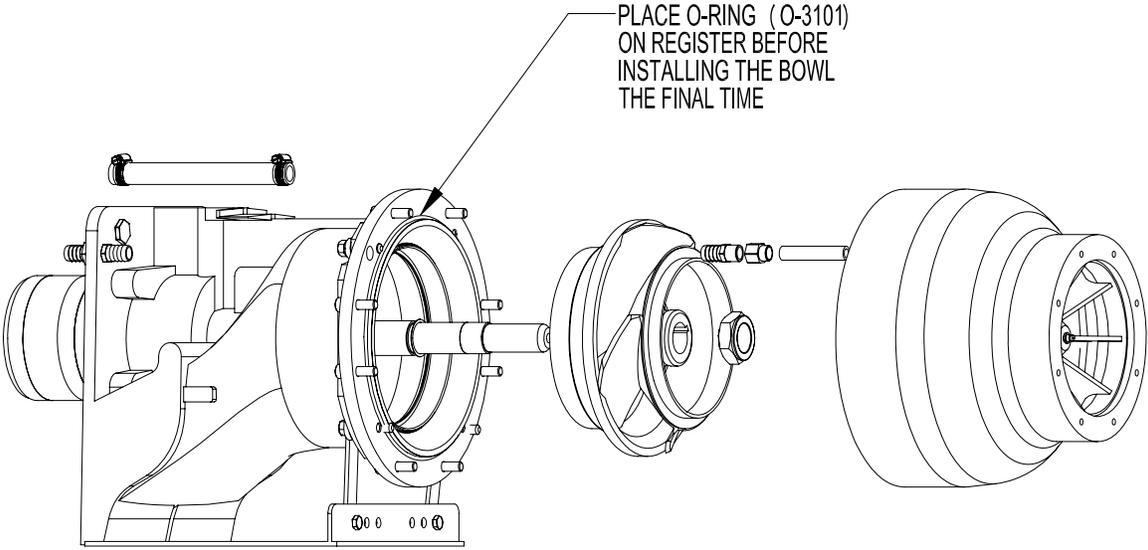

FIG 8
35. Temporarily install the bowl with four equal spaced bolts. Snug up the bolts, rotate the impeller shaft checking for tight spots or ticking noise. After you are satisfied there are no tight spots or noises then remove the bowl. FIG 8 Note: it is easier to install into the hull if you remove the bowl. You can hold the shaft and rotate it to line up the splines with the end yoke.
45. Install the bowl; make sure to use the o-ring. FIG 8 Torque the bowl bolts to 25 ft/lbs.